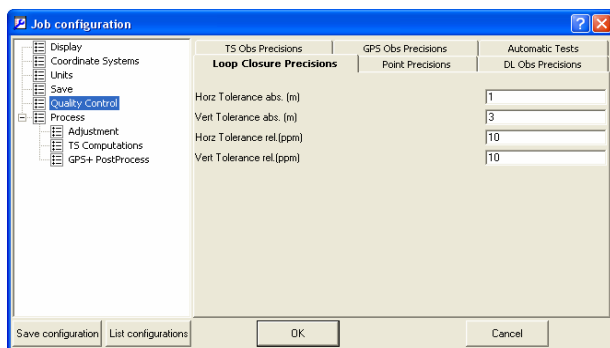

Figure 2-35. Job Configuration – Loop Closures Tab
- The *Loop Closures* tab sets the horizontal and vertical tolerances for loop closures (Figure 2-35).